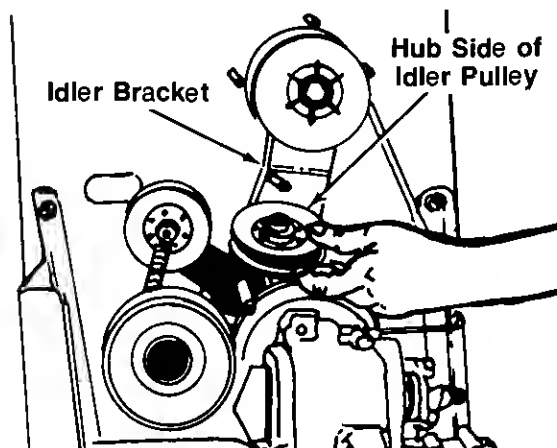

FIGURE 34.
12. Upon reassembly of idler pulley, be certain the hub side of idler goes against the idler bracket. See figure 34.